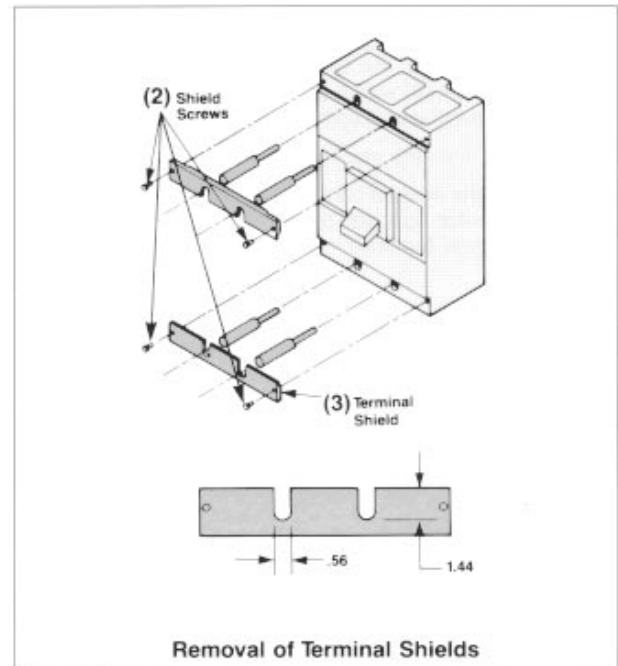

Figure 1
- Remove the four shield screws (2) and two lug shields (3) (Figure 1).